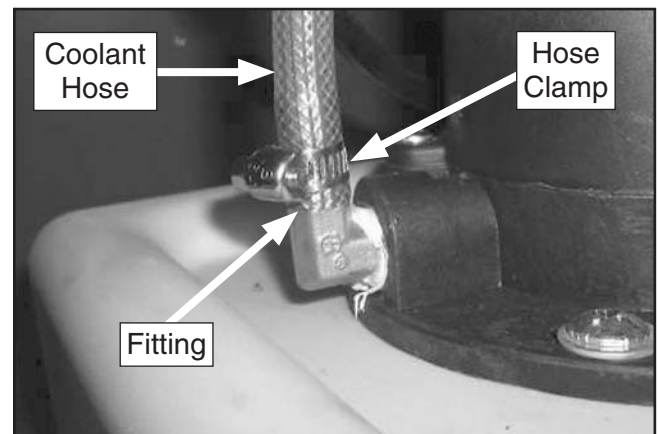

Figure 16. Coolant hose installed.
2. Push hose over coolant tank fitting and secure with hose clamp (see **Figure 16**).